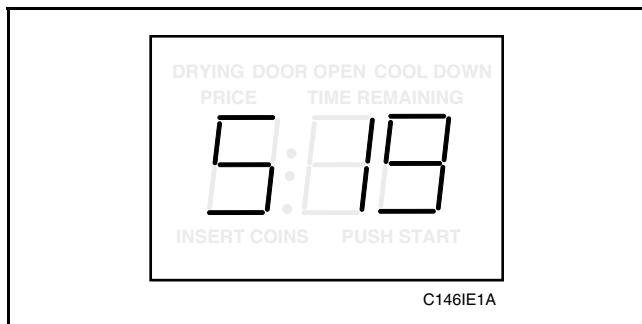

Figure 94
2. While pressing and holding the HIGH TEMP pad with one hand, press the MED TEMP pad with the other hand. Programmable option number 1, (Audio Signal “SIg”), will appear in the VFD, *Figure 94*.